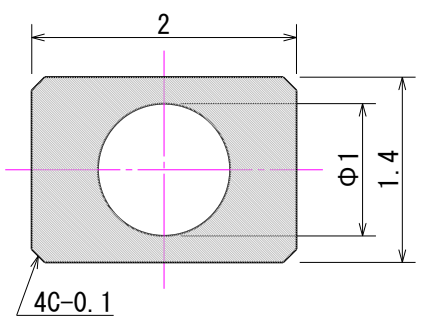

Figure 3. Example of a Recommended Nozzle Tip
2. Figure 3 shows an example of a recommended nozzle tip. Figure 4 shows correct/incorrect examples for shapes of the nozzle and LED pick-up positions for reference purposes.